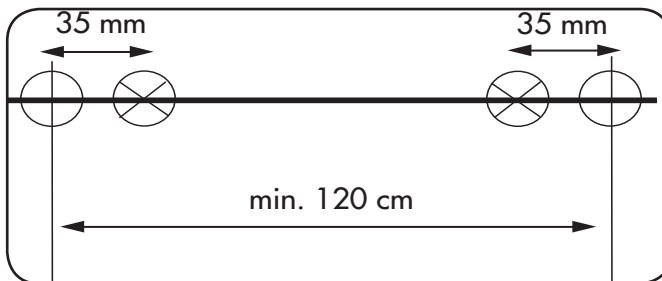

Fig. 5: Correct positioning of the radiating element
2. Mark the 4 holes of the fastening brackets (2 each per bracket) on the wall. Observe the spacings in the drawing drawing for this (see Fig. 5)